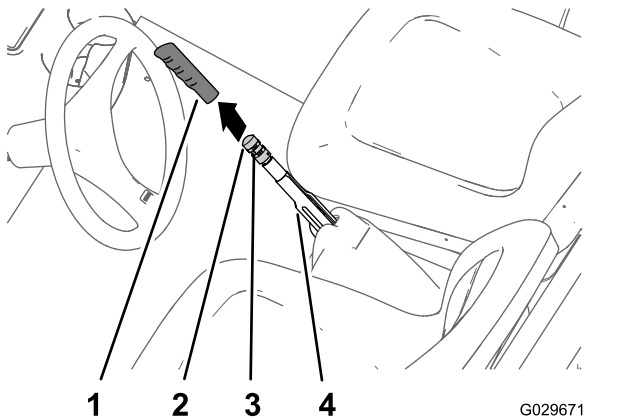

Figure 52
1. Remove the handgrip from the parking-brake lever (Figure 52).
2. Loosen the set screw securing the brake-adjustment knob to the parking-brake lever (Figure 52).
3. Rotate the brake-adjustment knob until you reach a force of 133 to 156 N (30 to 35 lbf) to engage the parking-brake lever (Figure 52).
4. Tighten the set screw and install the hand grip (Figure 52).
2. Loosen the set screw (Figure 52) securing the brake-adjustment knob to the parking-brake lever, disengage the parking brake, and loosen the brake-adjustment knob.
5. Rotate the brake-adjustment knob (Figure 52) until a force of 133 to 156 N (30 to 35 lbf) is required to engage the parking-brake lever.
- C. Rotate the brake-adjustment knob (Figure 52) until a force of 133 to 156 N (30 to 35 lbf) is required to engage the parking-brake lever.
- Tighten the set screw and install the handgrip (Figure 52).